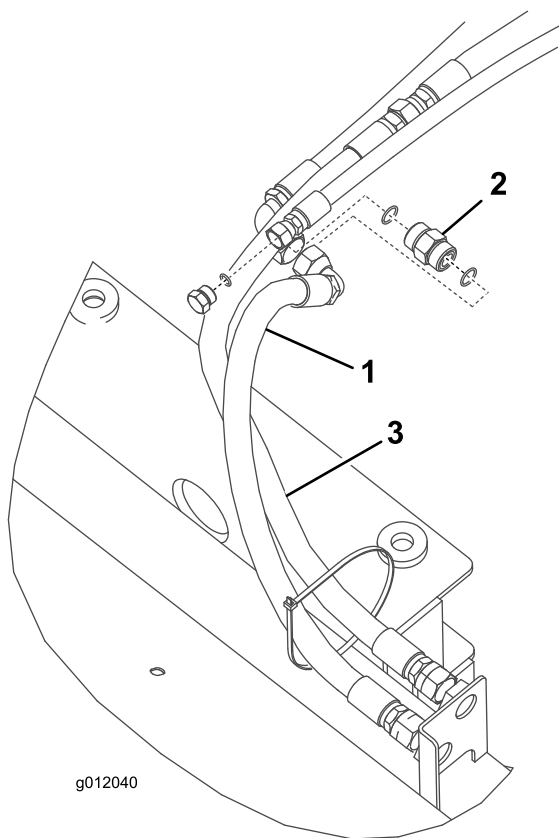

Figure 13
1. Connect the (2) extension hoses (Figure 13) to the large traction unit hoses as follows: